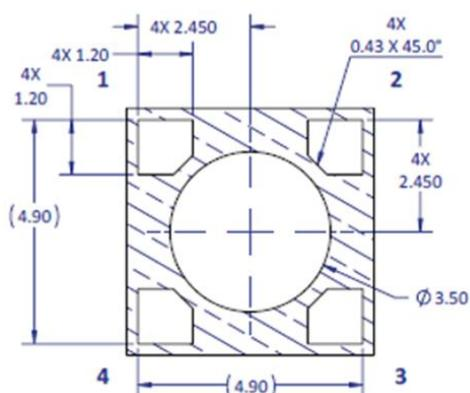

Figure 2b: Recommended solder mask opening for anode, cathode, and thermal pad for non-pedestal and pedestal design.
4. This emitter is compatible with all LZ1 MCPCBs provided that the MCPCB design follows the recommended solder mask layout (Figure 2b)
Note for Figure 2b: